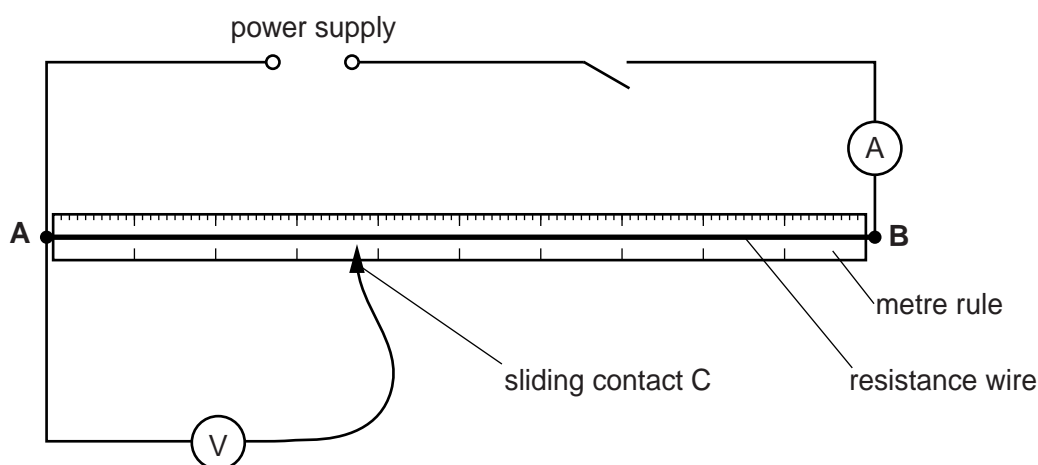

Fig. 3.1.
- (vi) Two suitable terminals (e.g. crocodile clips) attached to the constantan wire at the ends of the metre rule so that connections can be made to the circuit shown in Fig. 3.1.
- (viii) Sufficient connecting leads to set up the circuit shown in Fig. 3.1.
1. The circuit is to be set up for the candidates as shown in Fig. 3.1.
Check that the circuit is set up as shown in Fig. 3.1 and it is working. Switch off the circuit.